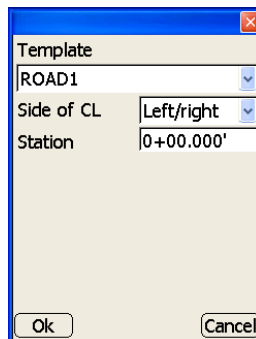

Figure 2-26. Template Applications Parameters Dialog Box
18. On the *template application parameters* dialog box, set the application parameters, then press **Ok** (Figure 2-26).